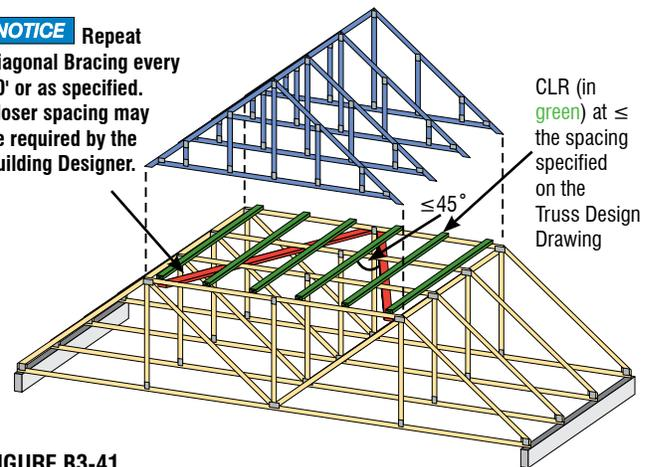

FIGURE B3-41
- Rows of 4x2 Stress-Graded Lumber CLR and Diagonal Bracing (see Figure B3-41)